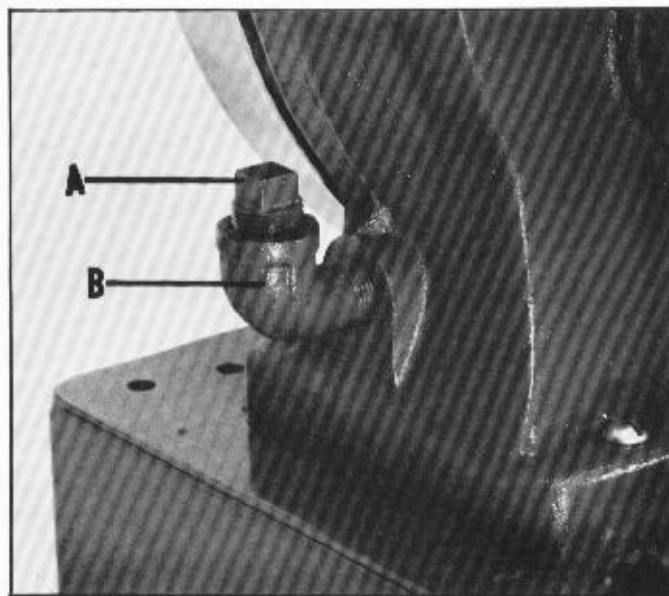

Fig. 27
All models are equipped with a 1/2 inch street elbow (B) Fig. 27, and a pipe plug (A).
Remove the pipe plug (A) Fig. 27, to check the level of oil in the gear case from time to time and keep it filled to insure proper gear lubrication.